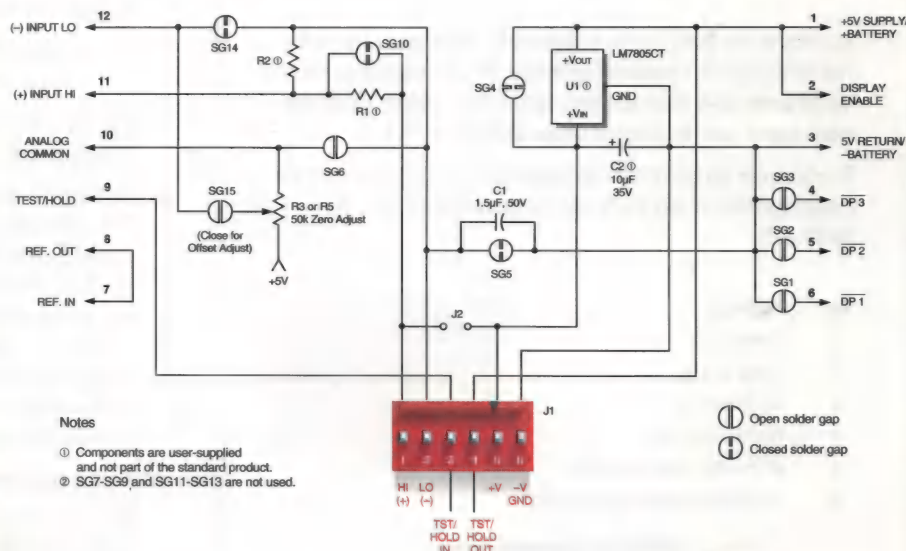

Figure 1. DMS-EB2 Schematic Diagram
As shipped, the DMS-EB2 is configured for single-ended operation. This configuration is preferred for simple voltage measurements and will generally cover most standard applications. Figure 1 indicates which solder gaps are shipped closed from the factory.
- 4. Calibration and Zero (Offset) Adjustment (Refer to Figure 1):** The DMS-EB2 has provisions for adjusting the calibration of the DMS-20 meter and also for applying an offset voltage to the (–) IN LO input terminal. Calibration adjustment is useful when an input divider (using R1 and R2) is necessary to scale the input voltage. The calibration potentiometer allows "tweaking" of the display reading. Zero offset adjustment can be used to compensate for an input signal whose zero level is not zero volts, as in 4–20mA current loop applications.